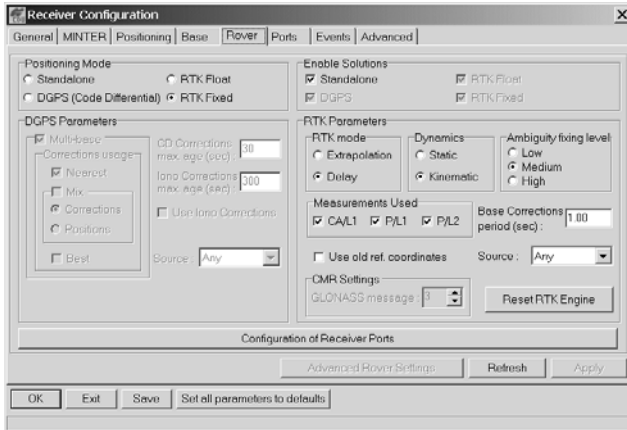

Figure 3-11. Rover Tab Configuration
5. Select the **Rover** tab and set the desired Positioning Mode (Figure 3-11).